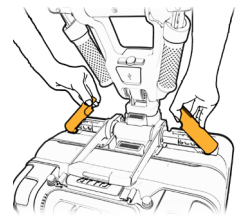

Figure 50
2. Open both separation levers (see Figure 50). In case the separation levers require too much force to operate, you should apply horizontal pressure on the driving console towards the center of the ATTO. This will release the pressure on the separation levers and will make them easier to open.